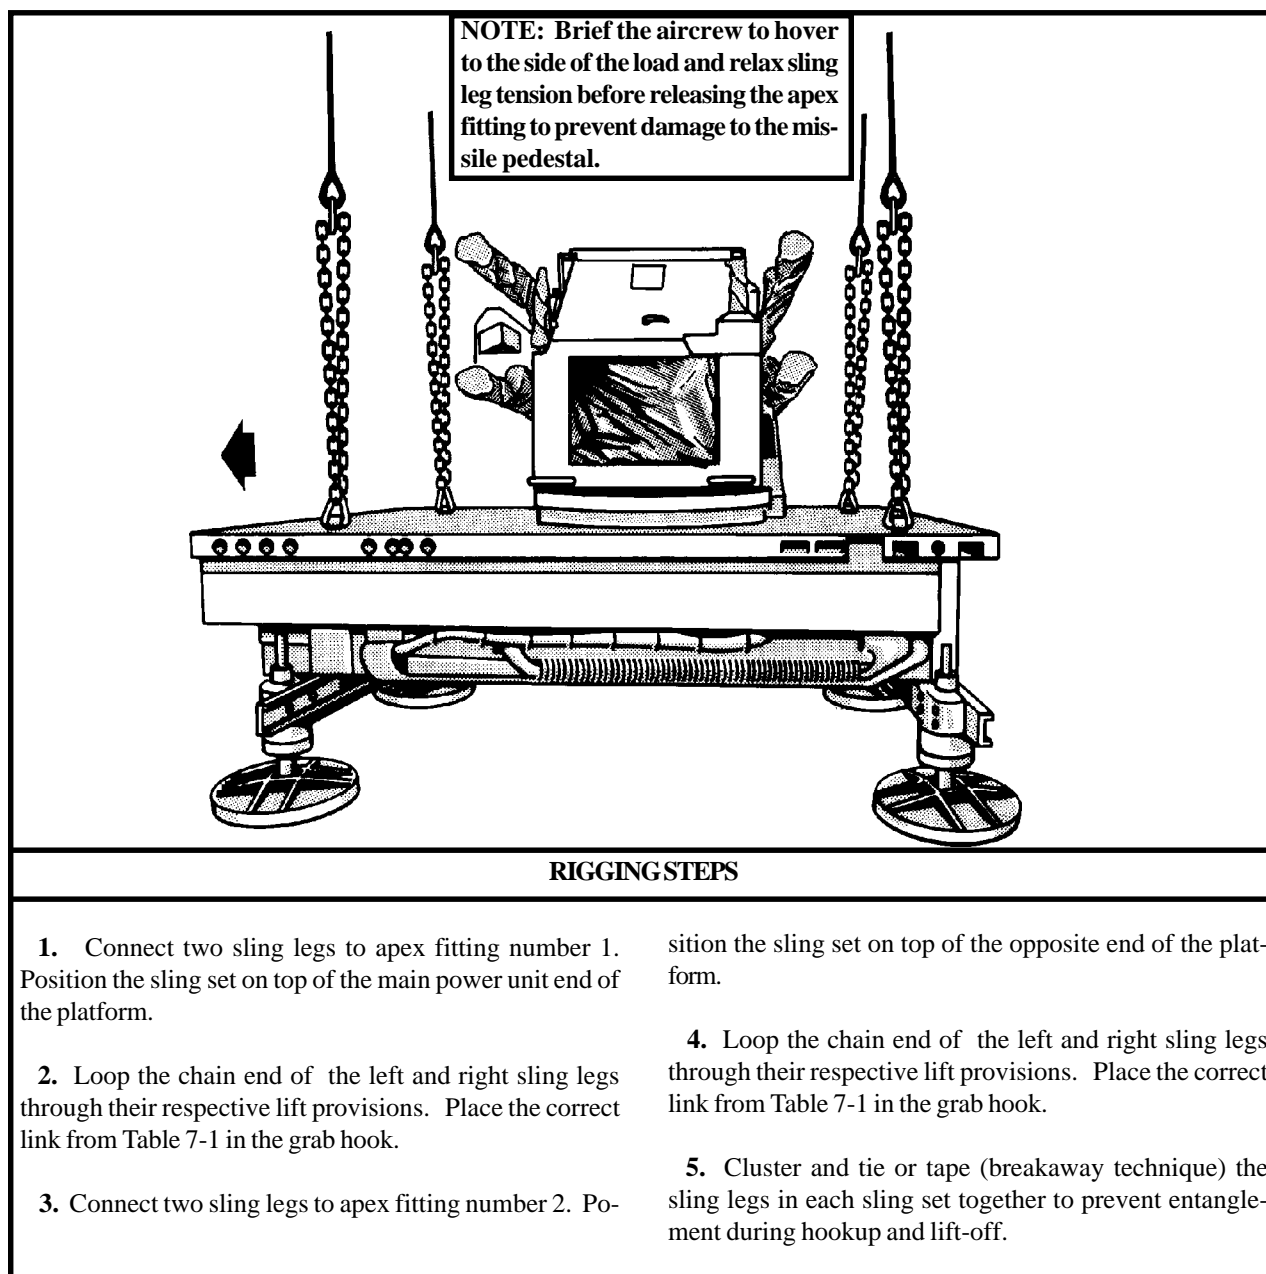

Figure 7-1. M54A1/M54A2 Chaparral Launch Station
(1) Preparation. Prepare the load using the following steps:
(2) Rigging. Rig the load according to the steps in Figure 7-1.
(3) Hookup. Two hookup teams are required for this load. The hookup teams stand on the back of the gunner's compartment. The static wand person discharges the static electricity with the static wand. The forward hookup person places apex fitting 1 onto the forward cargo hook. The aft hookup person places apex fitting 2 onto the aft